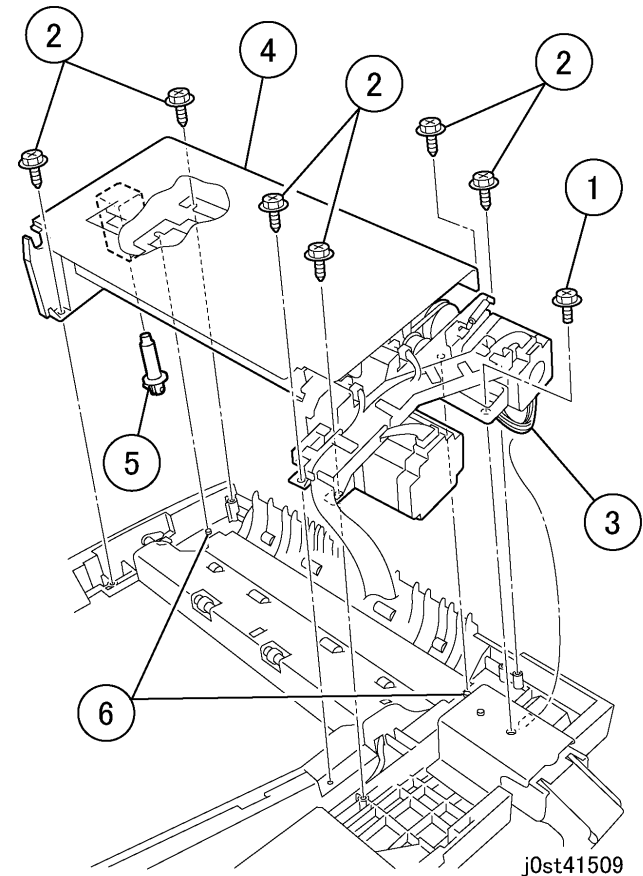

Figure 3 Removing the DADF Feeder Assembly
7. Remove the DADF Feeder Assembly (Figure 3).